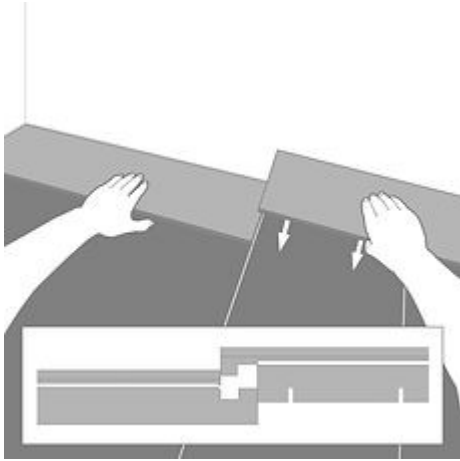

Figure 2
- 4.** Lay the first row in a straight line and click the head ends together. Put the short side of the profile into head end of the previous panel and press the panel downwards. It is recommended to use a rubber mallet for connecting the head ends so that the joint fits securely. Continue laying the first row in the same way until you get to the last piece (**Fig 2**).